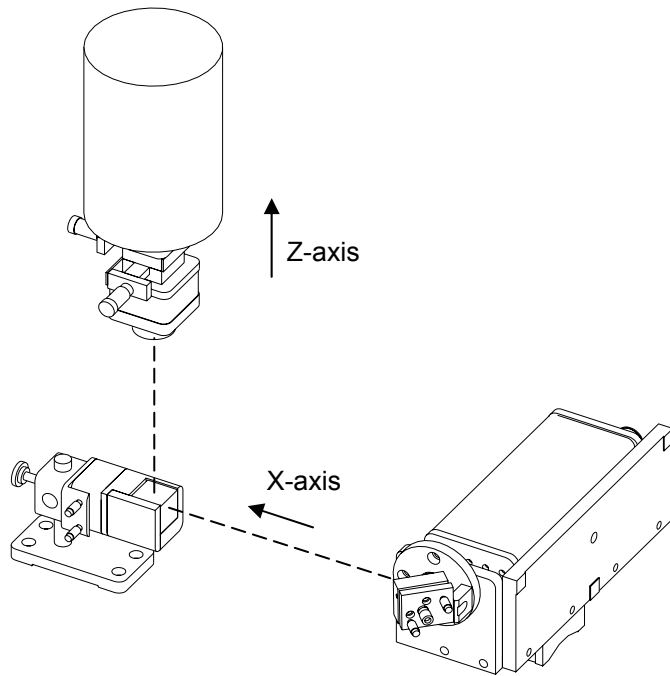
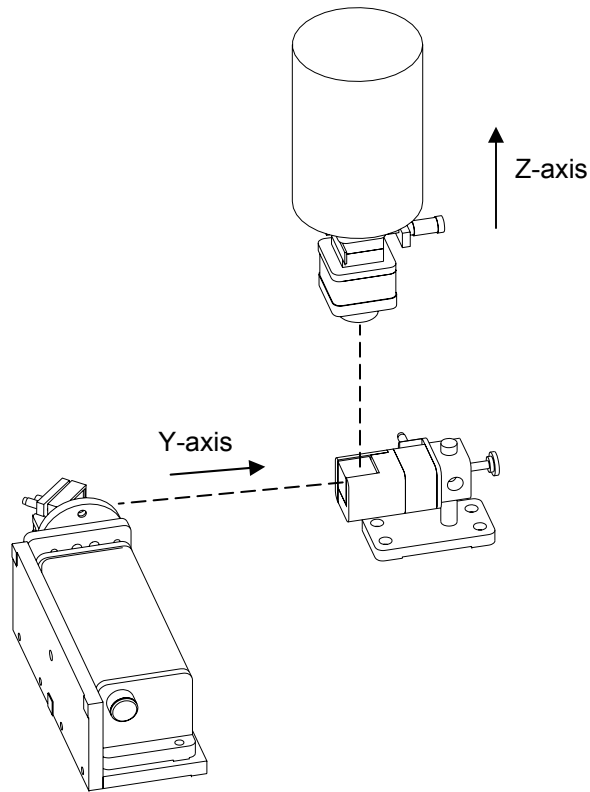

FIG. 10-11 SQUARENESS IN X-Z PLANE
FIG. 10-12 SQUARENESS IN Y-Z PLANE
2. A typical setup for the measurement of squareness is the XZ plane, as shown in Fig. 10-11. Squareness in other planes is shown in Fig. 10-12 and 10-13.
7. Squareness in XY and YZ planes is measured in a similar way (see Figs. 10-12 and 10-13).